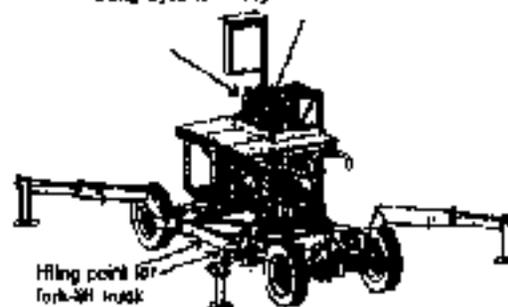

Fig. 3-36 Lifting points
- 5 Lift or raise the machine from the vehicle with a fork-lift truck or a crane (fig. 3-36).